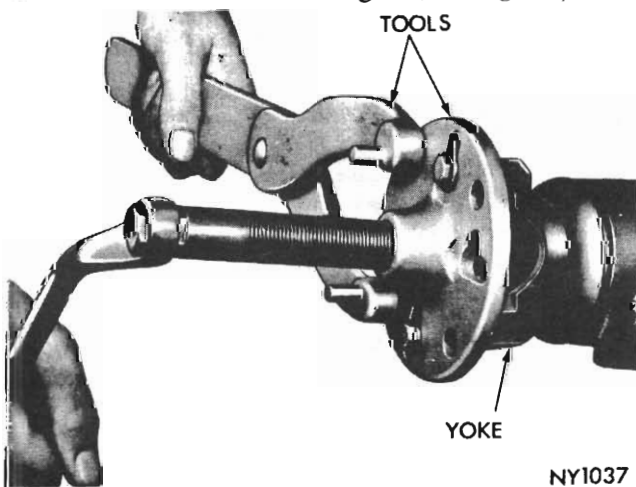

Fig. 16 - Removing pinion yoke (Tools E3C10 and E3C10L) (typical)
- (6) Remove pinion nut and remove yoke with puller Tool E3C10 and holding Tool E3C10L (see Fig. 16).